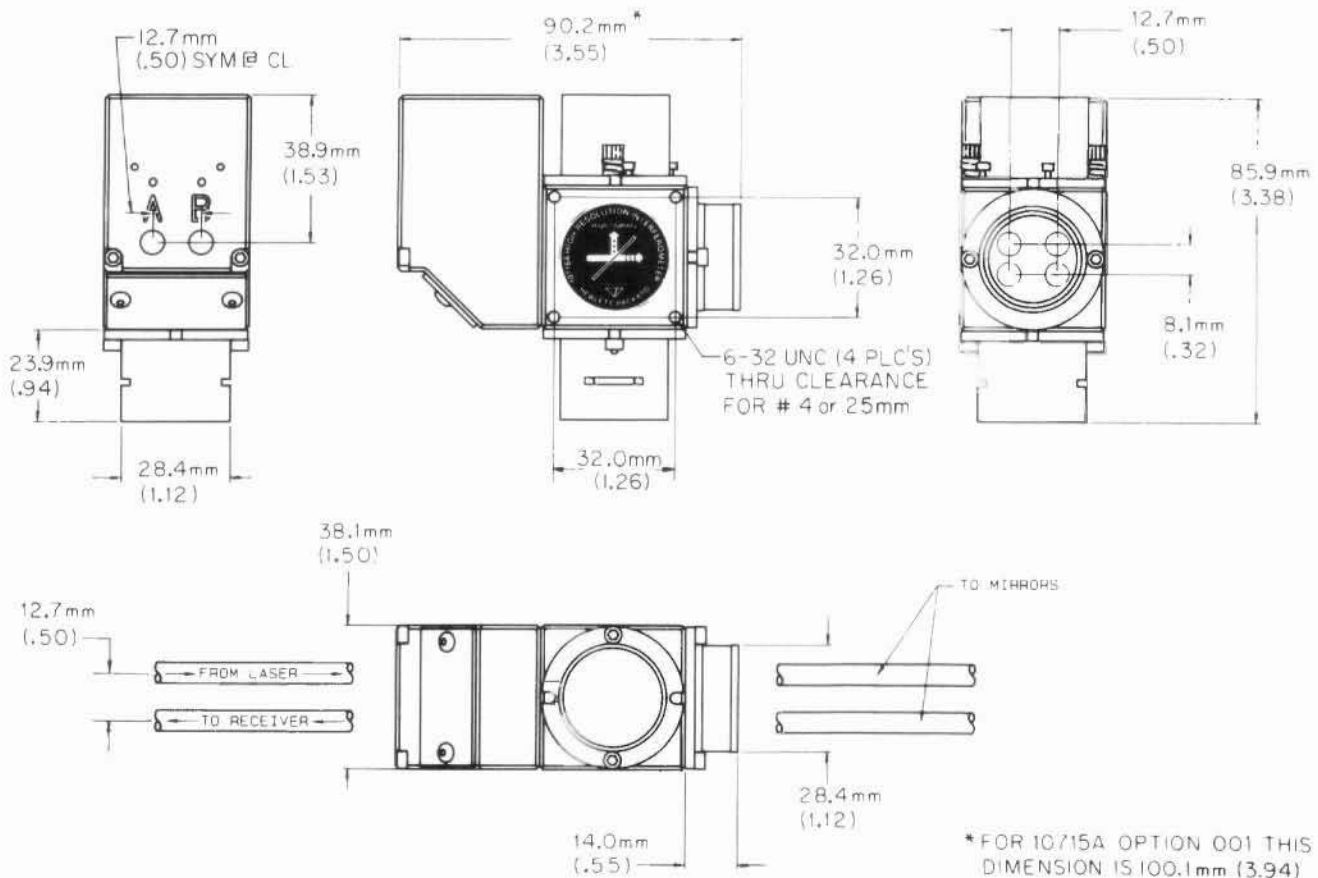

Figure 8-8. HP 10716A High Resolution Interferometer
**Dimensions:** See Figure 8-8.